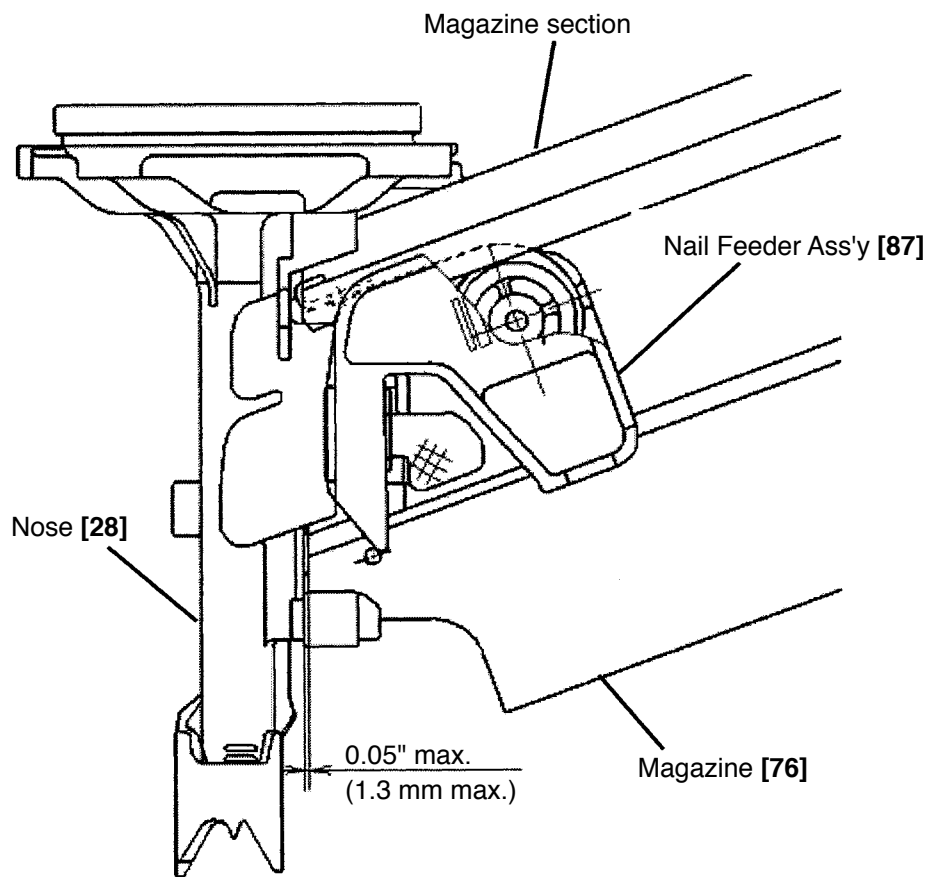

Fig. 23
(1) Magazine [76], Nail Feeder Ass'y [87] and the related parts (See Fig. 23.)
- Contour mismatch/clearance between the Nose [28] and the magazine section shall be 0.05" (1.3 mm) max. (See Fig. 23.)